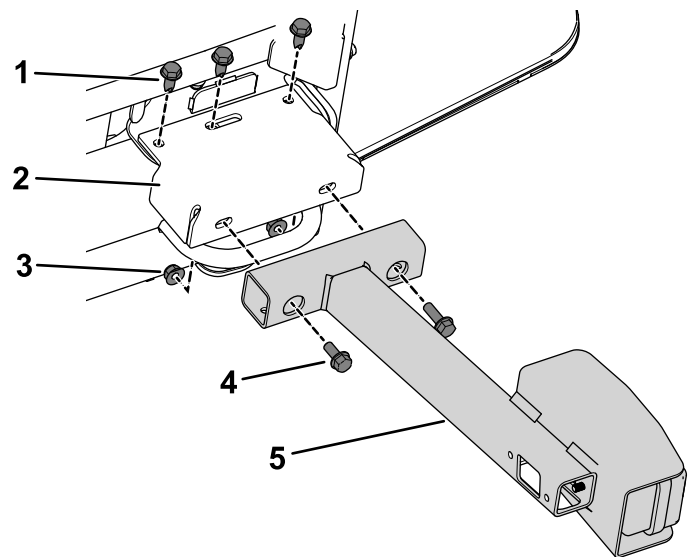

Figure 5
- Use the previously removed bolts to secure the tail light extension brackets to the frame rail (Figure 5).
- Use 4 bolts (5/16 x 3/4 inch) and 4 nuts (5/16 inch) to secure the tail light mounts to the extension brackets (Figure 5).